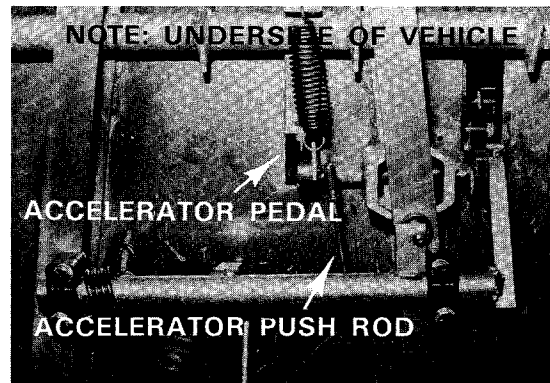

Figure 13-7
3. Disconnect push rod from accelerator pedal (Figure 13-7).